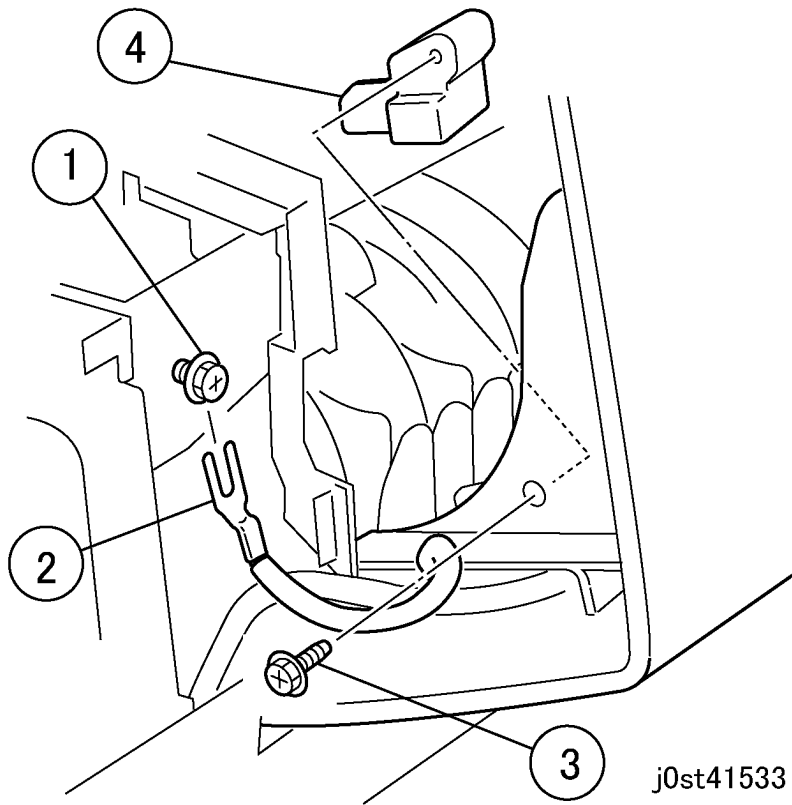

Figure 2 Removing the Harness Guide
4. Remove the Harness Guide (Figure 2).